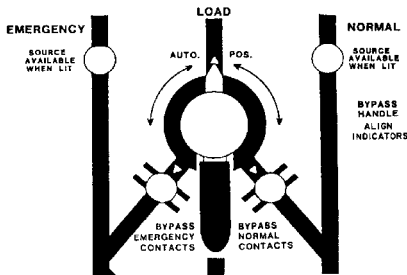
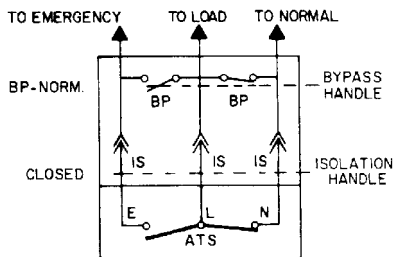
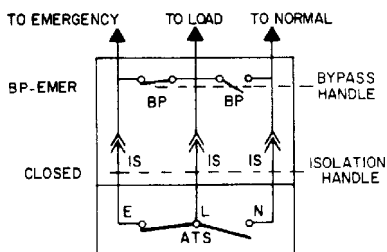

Figure 3-1. Bypass Handle.
Figure 3-2. Bypass to Normal.
Figure 3-3. Bypass to Emergency.
2. Bypass to the same source connected to the load as follows (select direction). Refer to Figure 3-1, Figure 3-2, and Figure 3-3.